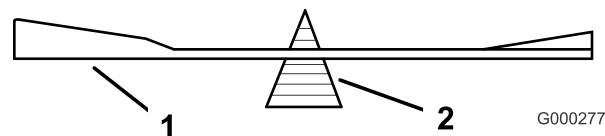

Figure 43
2. Check the balance of the blade by putting it on a blade balancer (Figure 43). If the blade stays in a horizontal position, the blade is balanced and can be used. If the blade is not balanced, file some metal off the end of the sail area only (Figure 43). Repeat this procedure until the blade is balanced.